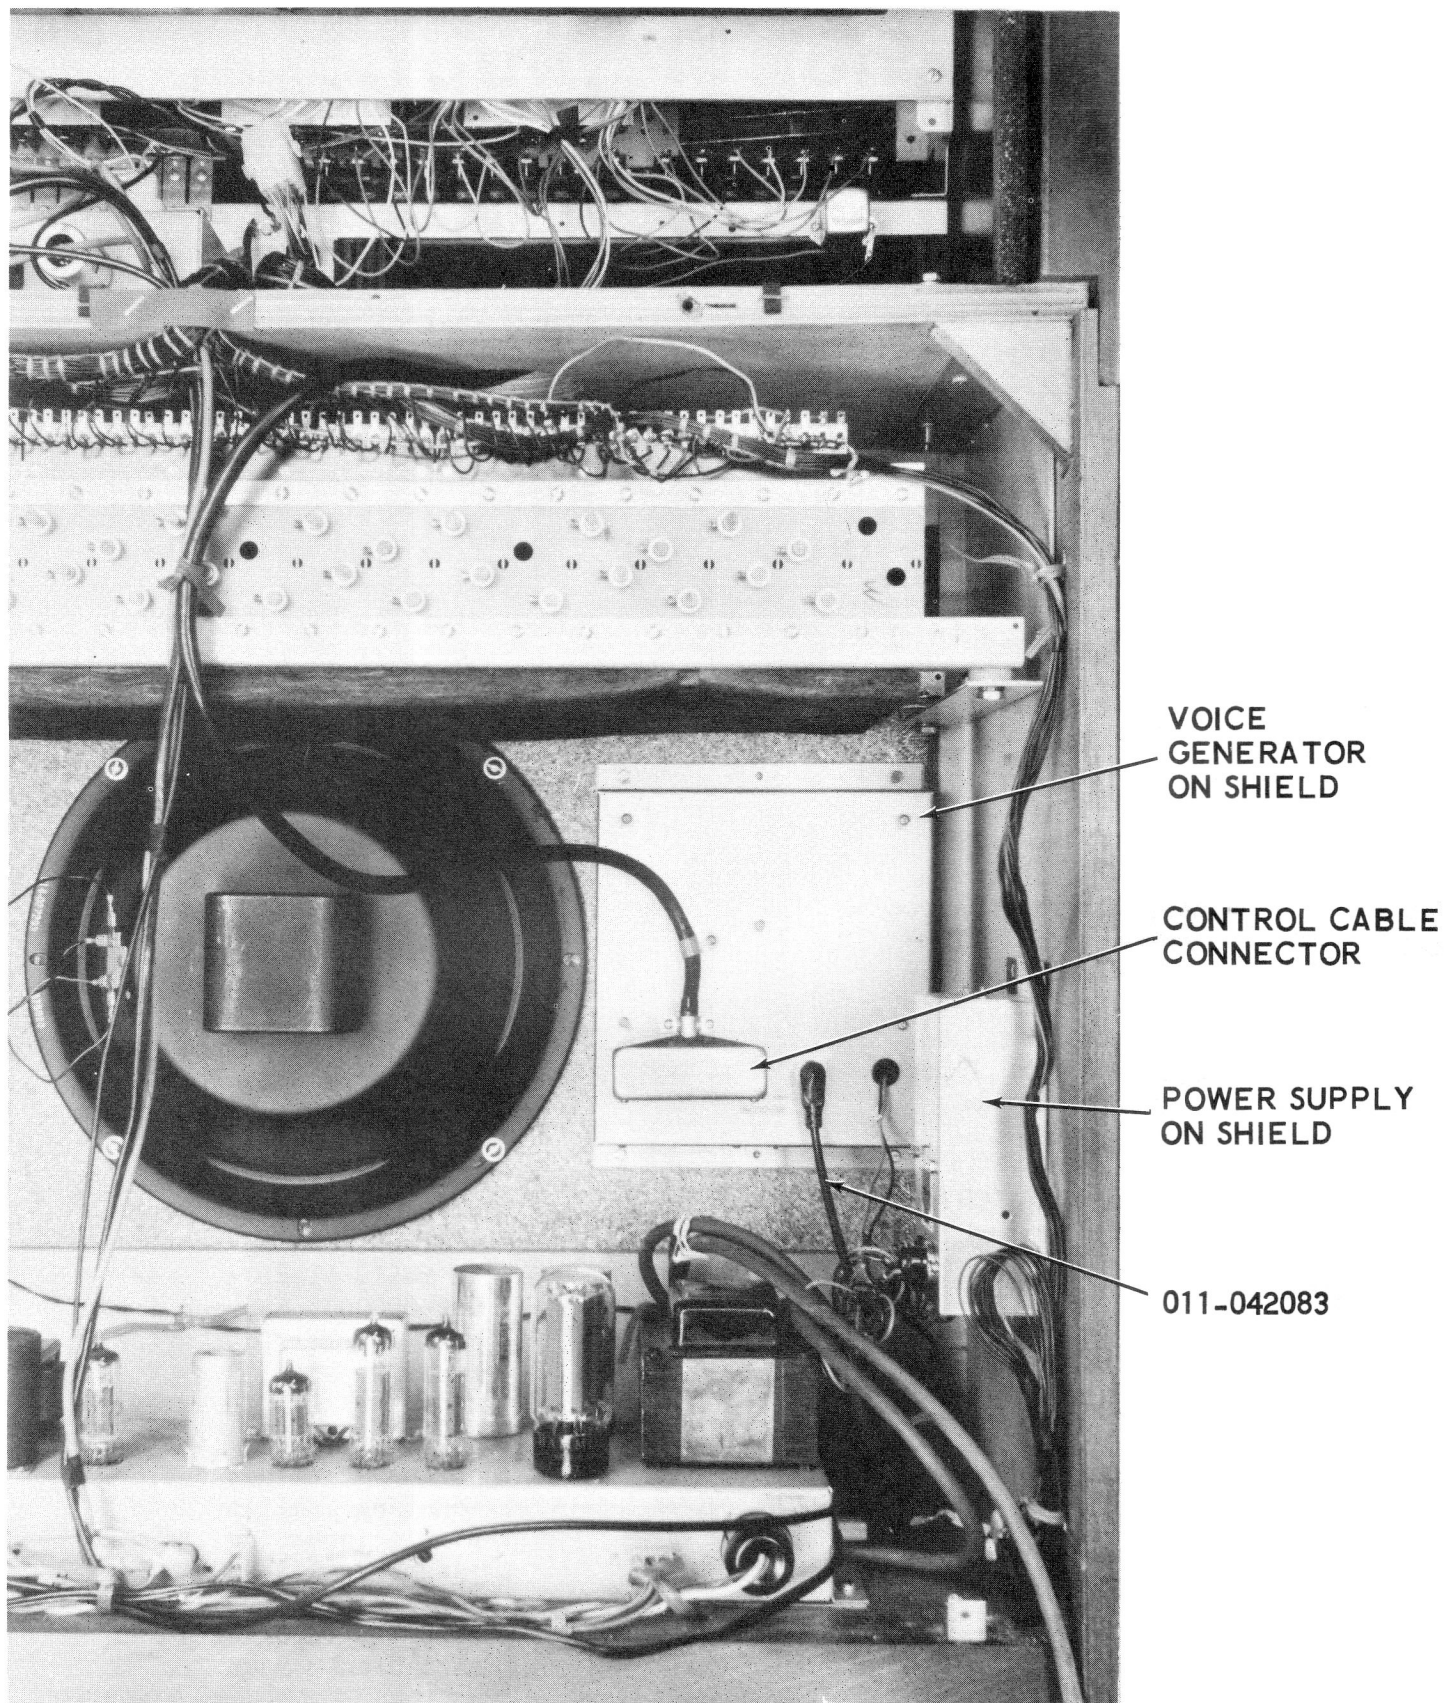

FIGURE 2-1.
The Power Supply is to be installed in the position indicated in Figure 2-1.
- a. Place voice generator shield, 010-042082, over pilot holes immediately to right of main speakers. Position as shown in Figure 2-1.